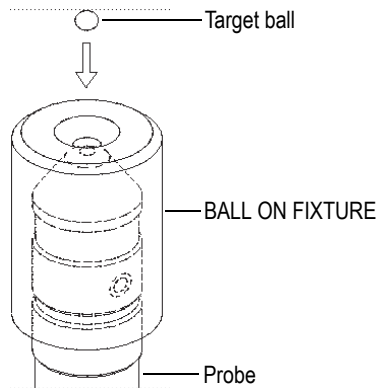

Figure 4-6 Alignment of target ball in fixture on probe
3. **BALL ON:** Select the target ball that you will be using in subsequent measurements, along with the BALL ON FIXTURE for that ball size. The fixture centers the target ball on the probe tip. Place the ball on top of the fixture. Place the fixture over the tip of the probe and slide it down until it stops, as shown in Figure 4-6 on page 79.